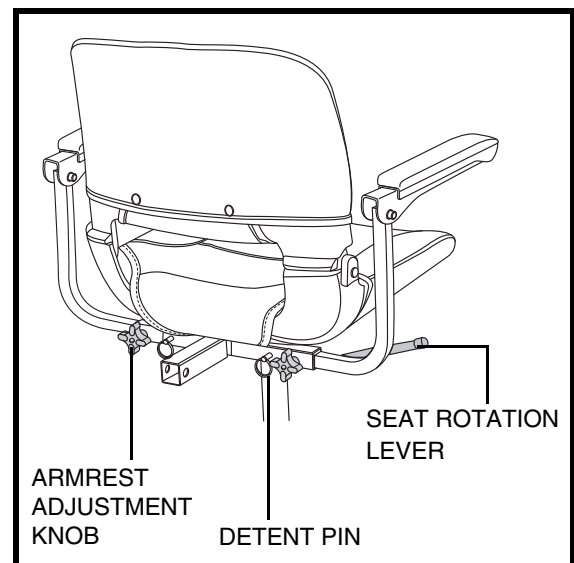

Figure 18. Seat Adjustments
The seat rotation lever, located on the right side of the seat base, secures the seat into several positions. **See figure 18.**
1. Loosen the armrest adjustment knobs. **See figure 18.**